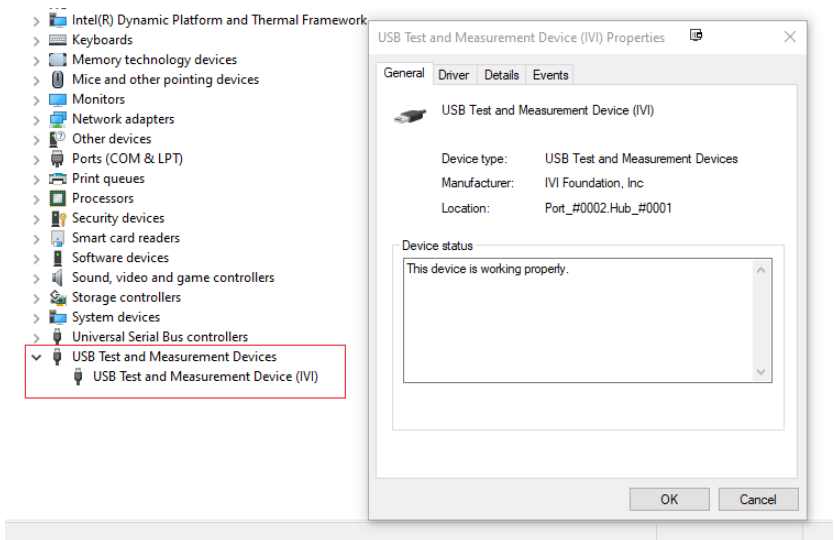

Figure 20. USB device listed in the device manager
*Note. If the driver is installed correctly, it listed as USB Test and Measurement Device (IVI) (Figure 20)*